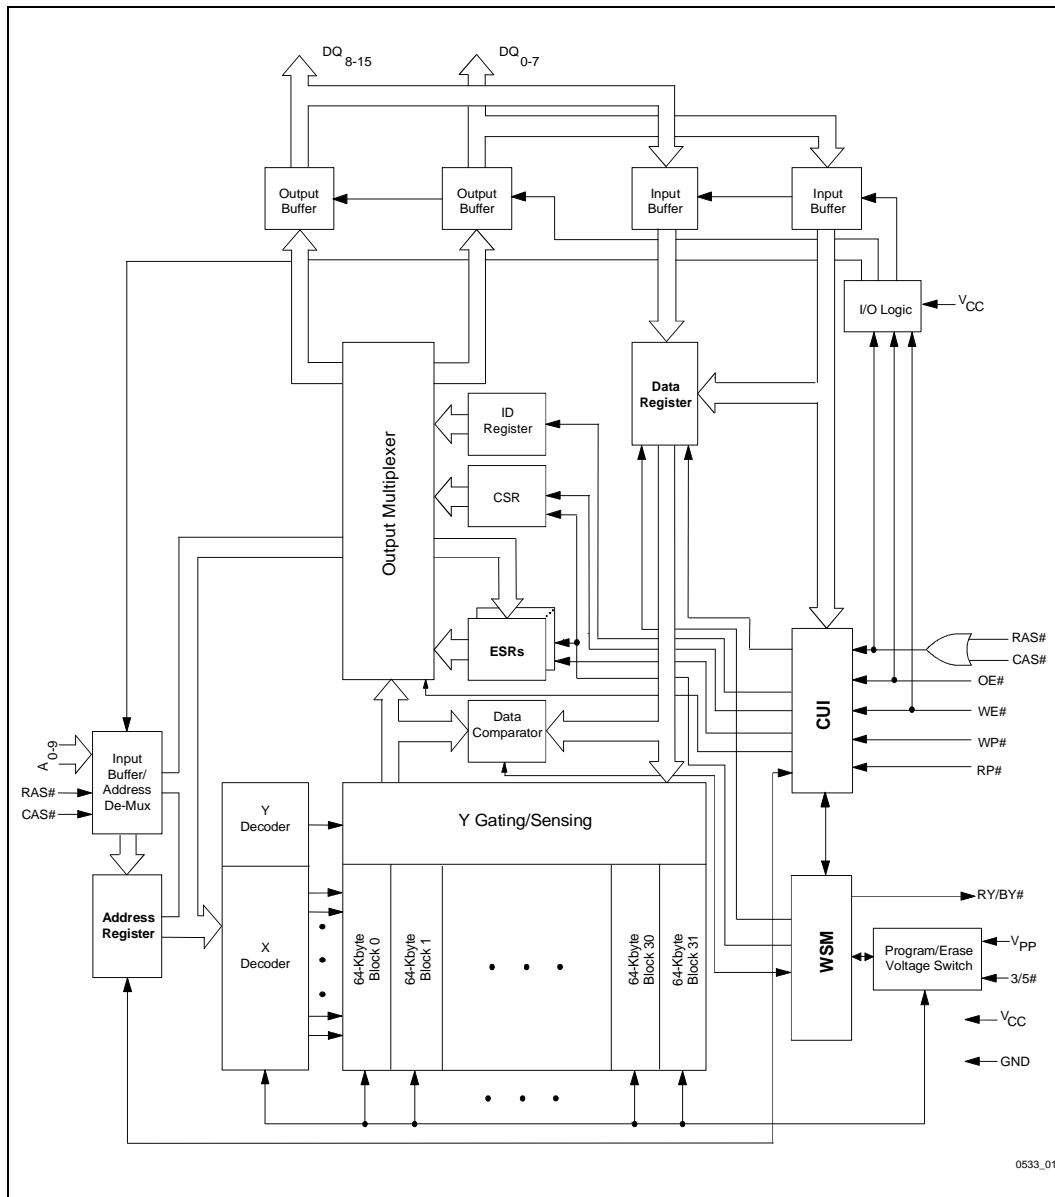
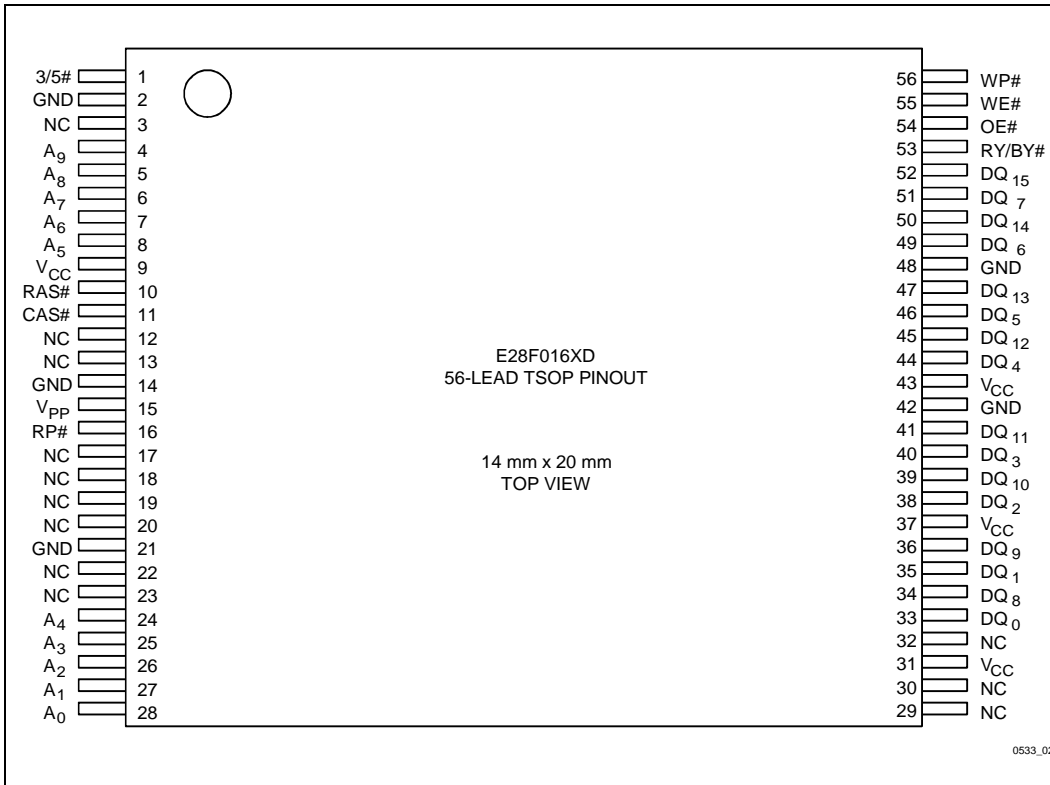

Figure 1. 28F016XD Block Diagram
Figure 2. 28F016XD 56-Lead TSOP Type I Pinout Configuration
-003	<p>Added 3/5# pin to Pinout Configuration (Figure 2), Product Overview (Section 1.1) and Lead Descriptions (Section 2.1) Modified Block Diagram (Figure 1): Removed Address/Data Queues, Page Buffers, and Address Counter; Added 3/5# pin Added 3/5# pin to Test Conditions of I_{CC2} and I_{CC5} Specifications Modified Power-Up and Reset Timings (Section 5.9) to include 3/5# pin: Removed t_{5VPH} and t_{3VPH} specifications; Added t_{PLYL}, t_{PLYH}, t_{YLPH}, and t_{YHPH} specifications Corrected TSOP Mechanical Specification A1 from 0.50 mm to 0.050 mm (Section 6.0) Minor cosmetic changes throughout document.</p>
In addition, a significant 28F016XD change occurred between datasheet revisions 290532-002 and 290532-003. This change centers around the addition of a 3/5# pin to the device's pinout configuration. Figure 2 shows the 3/5# pin assignment for the TSOP Type 1 package.
The 28F016XD 56-Lead TSOP Type I pinout configuration is shown in Figure 2.